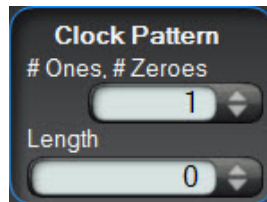

Figure 70. Clock pattern
2. Click on the **Clock Pattern** button to insert a clock pattern. The **#Ones, #Zeroes** numeric field shown in Figure 70 defines the number of ones and the number of zeroes in the clock pattern. The **Length** field defines the total bit length of the pattern.